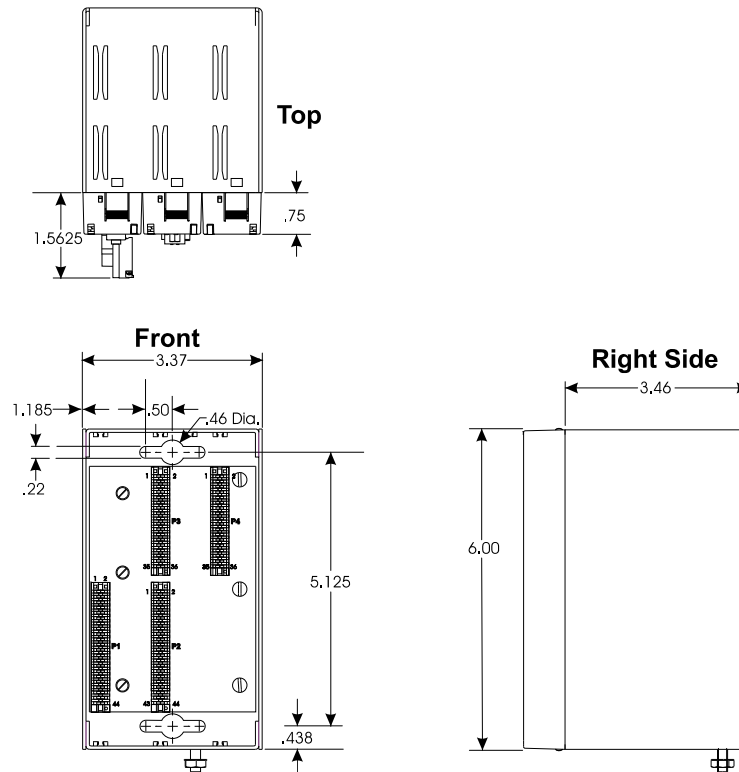
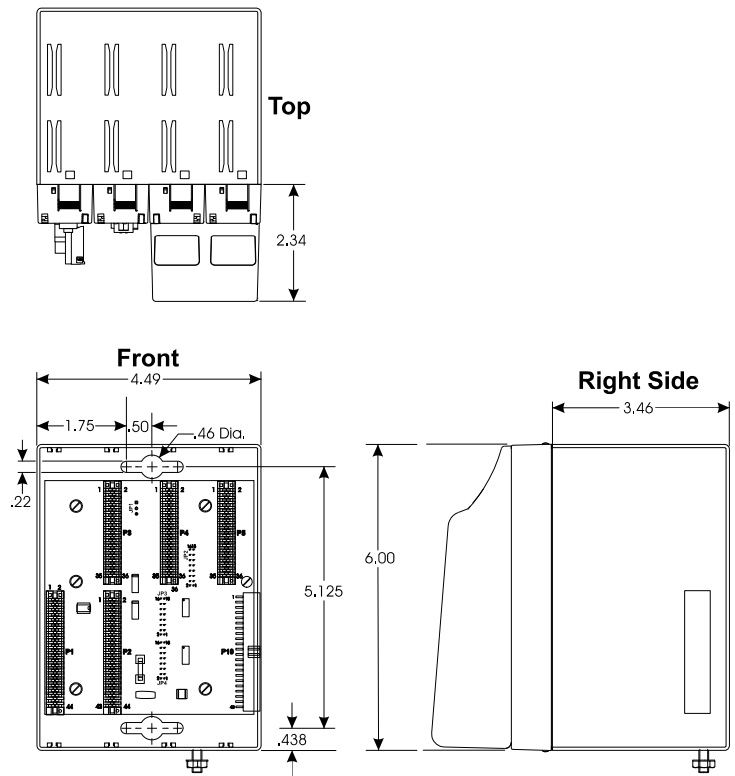
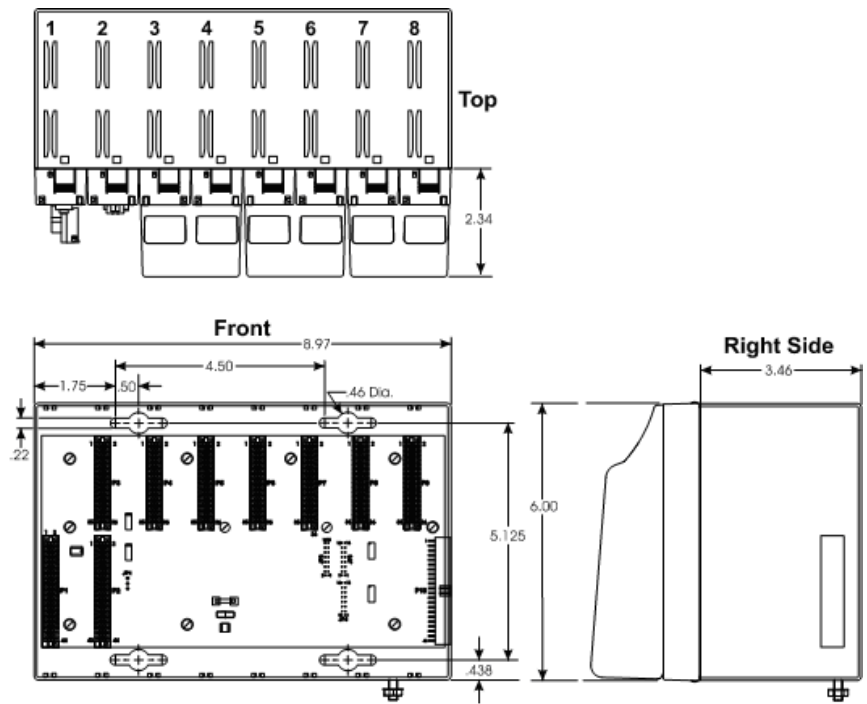
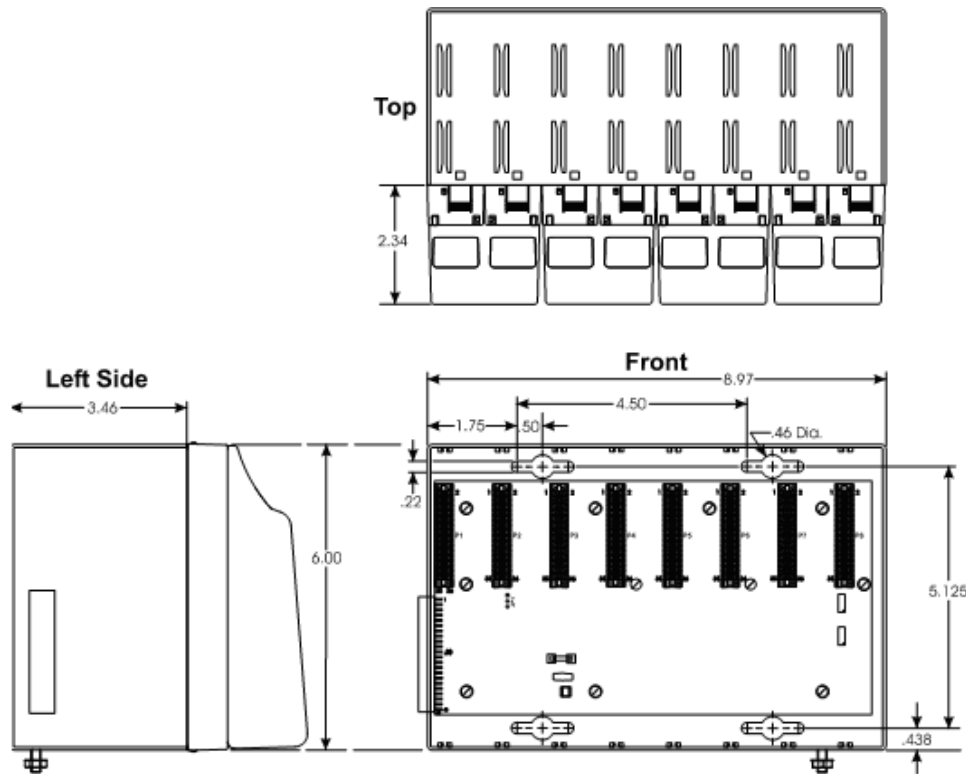

Figure 2-2. 3-Slot Base Housing
Figure 2-3. 4-Slot Base Housing
Figure 2-4. 8-Slot Base Housing
Figure 2-7. 8-Slot Expansion Housing
Keyed cutouts in the housing’s rear wall (see *Figure 2-2* through *Figure 2-7*) permit wall or panel mounting. The base housing has the following components:
Composed of aluminum (plated with gold irridite), the base housing has three configurations (3-slot, 4-slot, or 8-slot backplane). Optional I/O expansion housings (also gold irridite-plated aluminum) accommodate additional I/O modules in three configurations (2-slot, 4-slot, or 8-slot backplanes), and can be either wall- or panel-mounted or rack mounted with a DIN-rail. Refer to *Figure 2-2* through *Figure 2-7* for dimensional drawings of the three base housings and three expansion housings.
- Use the mounting holes provided in the base and expansion housings (see *Figure 2-2* through *Figure 2-7*).
Base housings have a ground lug (see *Figure 2-2* through *Figure 2-7*) that accommodates up to a #4 AWG wire size. Once you have installed the base and any expansion housings, you must run a ground wire between the base housing ground lug and a known good earth ground.
The Power Supply/Sequencer module (PSSM) plugs into slot #1 (first slot from the left) on the ControlWave Micro Distributed I/O System's backplane using connector P1, a 44-pin female non-keyed header (see *Figure 2-2*, *Figure 2-3* and *Figure 2-4*).